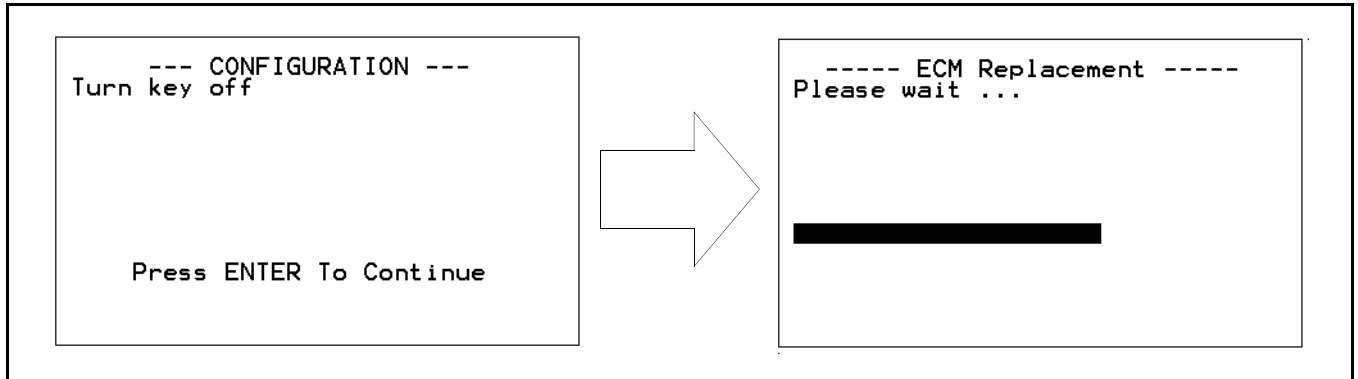

Figure 253 Key Off and Progress Bar Screens
3. Switch the ignition OFF and wait for the progress bar to indicate the completion of the configuration process (Figure 253).